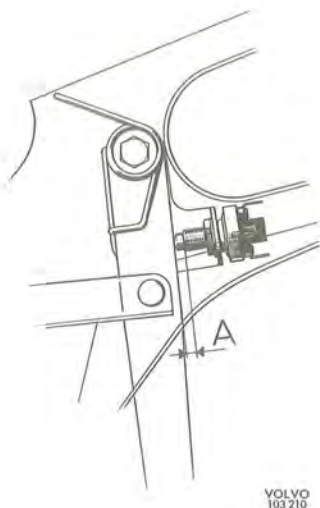
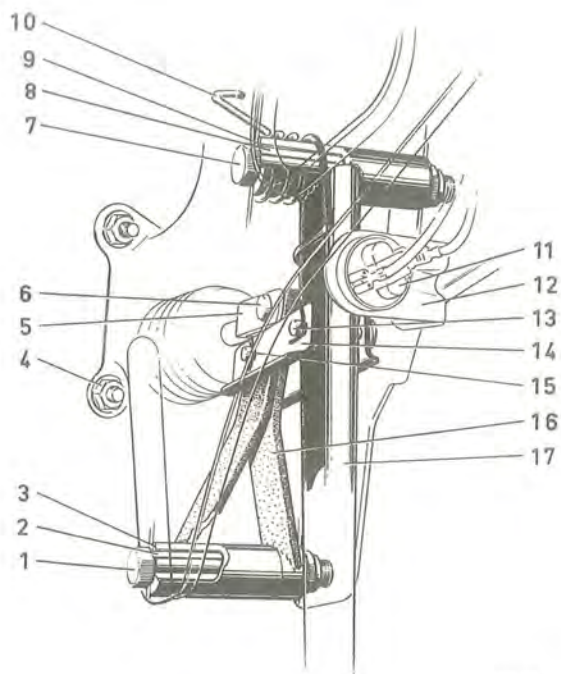

Fig. 5-68. Adjusting the brake light switch
Fig. 5-69. Brake pedal suspension components
Check the distance from the brass hub on the brake light switch to the brake pedal, see Fig. 5-68, when the brake pedal is released. The distance should be 4 ± 2 mm (.16—.08"). To adjust, slacken the screw for the bracket (12, Fig. 5-69). Remember to tighten the screw after adjustment.
2. Remove the bracket (12, Fig. 5-69) for the brake light switch (11). Remove the split pin and bolt (13). Unhook the return spring (10). Unscrew the nut for the bolt (7) and pull out the bolt.
3. Lift out the pedal (17).
4. Fit the new pedal bushes (9) and lubricate the bearing sleeves (8) with a light layer of ball-bearing grease. Fit the sleeve and the return spring.
5. Place the pedal in position and fit the bolt (7) and nut. Hook on the return spring. Fit the split pin bolt (13) and the split pin.
2. Remove the bracket (12, Fig. 5-69) for the brake light switch. Remove the split pins and bolts (6—13). Unhook the return spring (10). Unscrew the nuts for the screws (1—7) and remove the screws.
3. Lift out the pedal (17) and the lever (16).
6. Press in the new bushes (3 and 9) and lubricate them with a light layer of ball-bearing grease. Fit the bearing sleeves (2 and 8) and the return spring (10).
3. Remove the bracket (12, Fig. 5-69) for the brake light switch.
4. Fit the bracket (12, Fig. 5-69), and adjust the brake light switch (11), see under "Adjusting the brake light switch" on page 5 : 28.
2. Disconnect the link arm (16, Fig. 5-69) from the brake pedal. Remove the bracket with clutch pedal stop from the cowl.